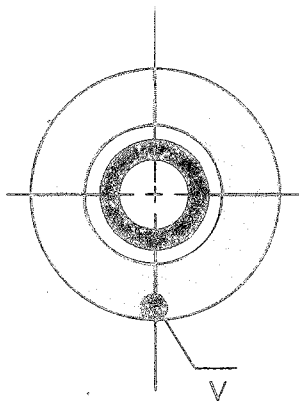

Fig 4
2. Let the wheel swings to find out the center of gravity and then mark with a [\checkmark], (Fig 4)